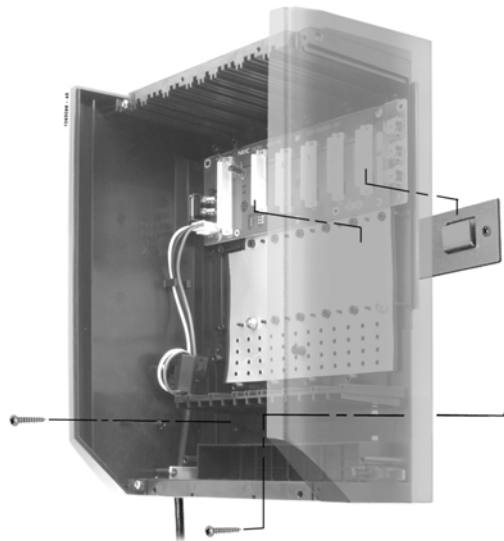

Figure 6: Hanging the DSX-80 4-Slot KSU
- See Figure 6: *Hanging the DSX-80 4-Slot KSU* below when hanging a DSX-80 4-Slot KSU.